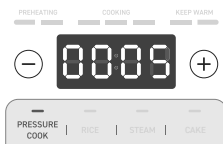

Figure 3.3
4. Select **PRESSURE COOK** and press the **-** or **+** buttons to set the cook time for 5 minutes. **[Figure 3.3]**